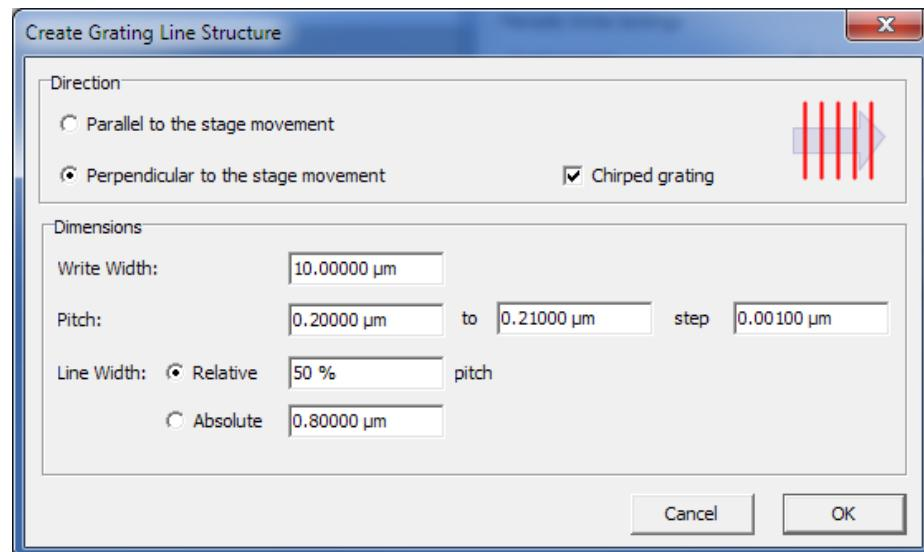

Figure 5-32: **Create Grating Line Structure** dialog with selection **Chirped grating**.
- ▶ Select **chirped grating** (\Rightarrow Figure 5-32 on page 5-51).